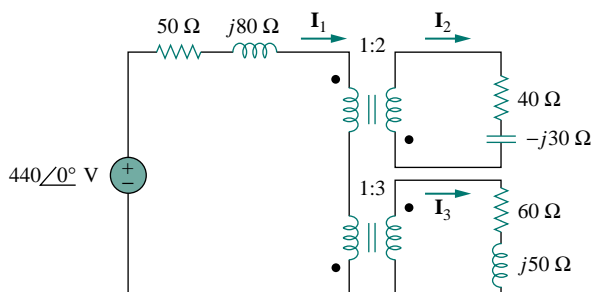

Figure 13.128 For Prob. 13.65.
- 13.65** Determine I_1 , I_2 , and I_3 in the ideal transformer circuit of Fig. 13.128 using *PSpice*.